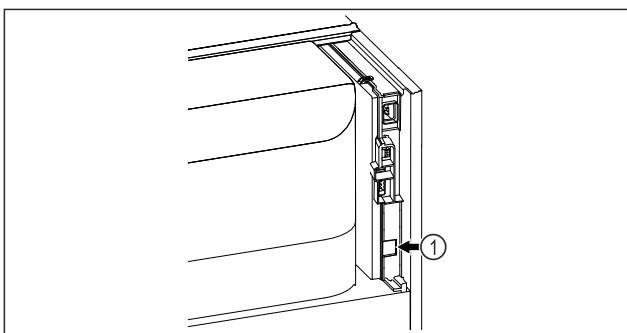

Fig. 146
- SmartModule Fig. 146 (1) is in use.